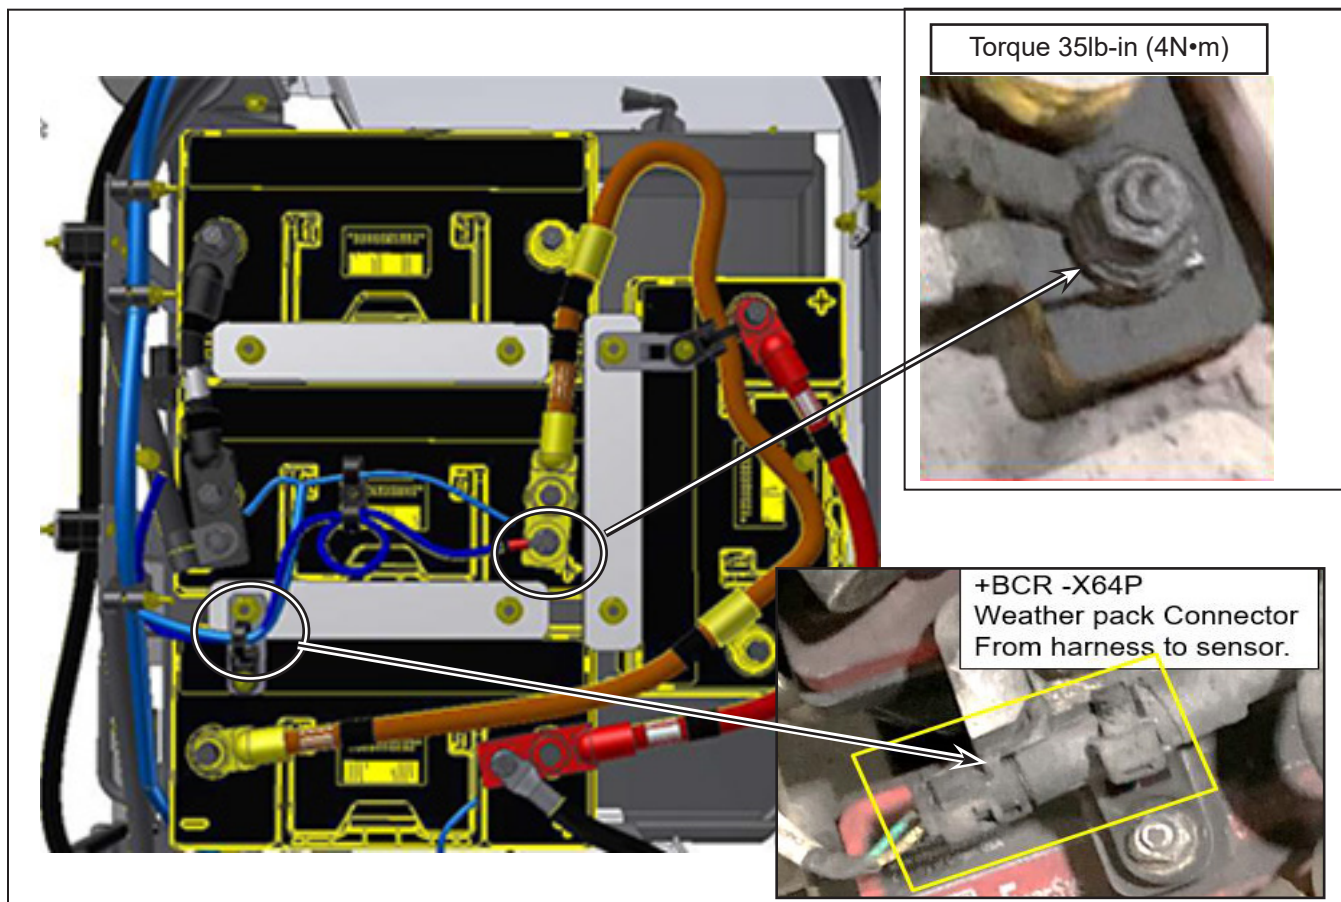

Figure 1 - Connection Points and Torque Value of the Temperature Sensor
- 1.5. Verify the connection and torque of the temperature sensor N92896 anchor point on the battery. See Figure 1 for torque value.
- 1.6. Disconnect the temperature sensor connector. See Figure 1.
- 2.6. Install the new N92896 temperature sensor. See Figure 1 for torque value and positioning of the temperature sensor.